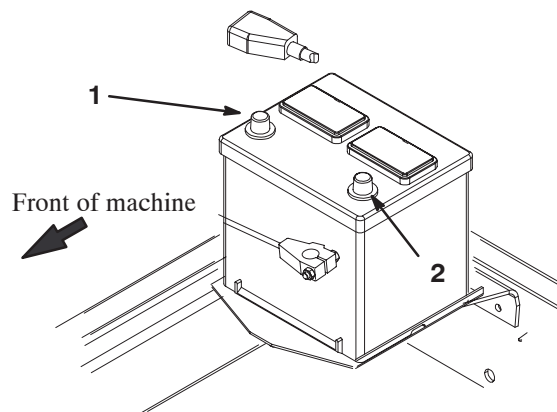

Figure 9
8. First, install the positive cable (red) to the positive (+) terminal and then the negative cable (black) to the negative (–) terminal of the battery (Fig. 9). Slide the rubber boot over the positive terminal to prevent a possible short from occurring.